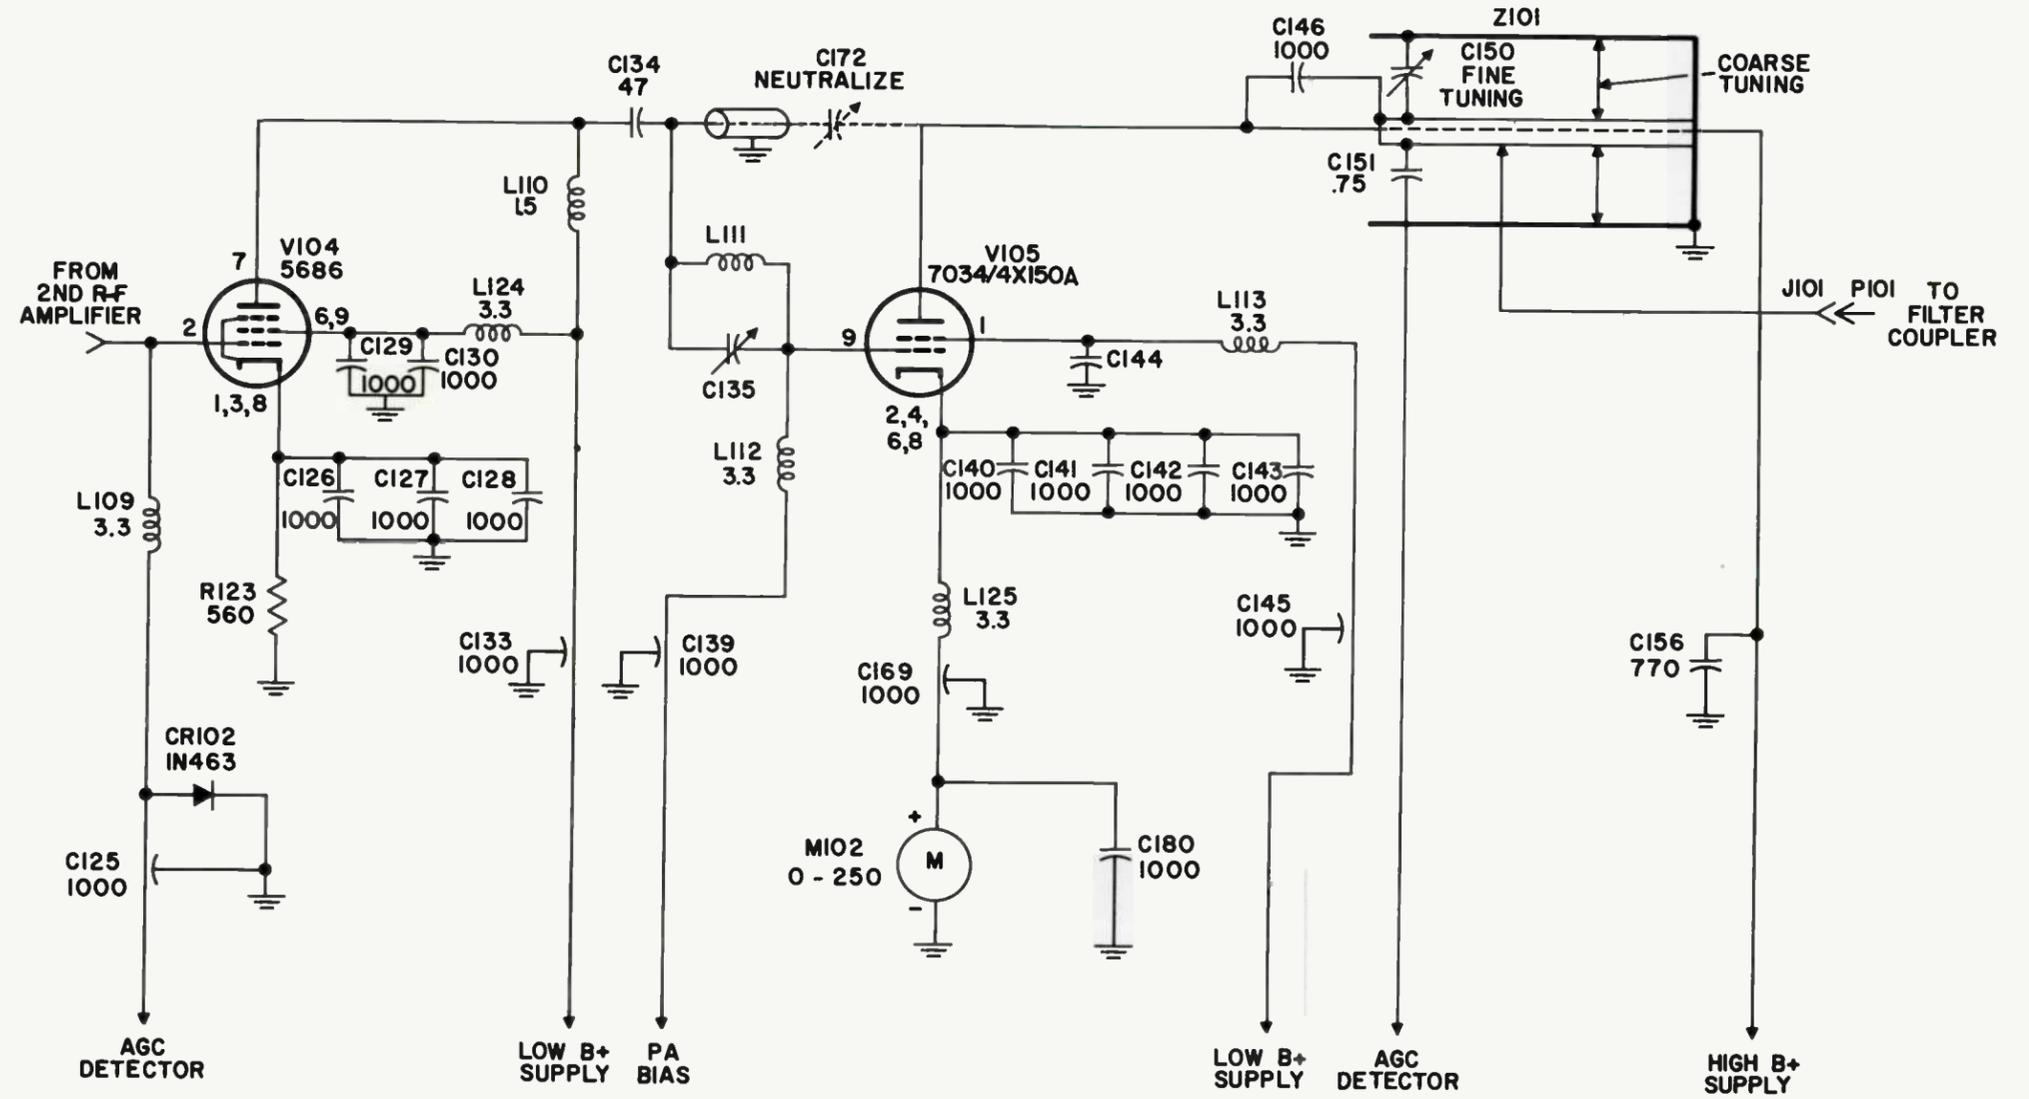

Figure 4-4. Driver, Power Amplifier, and Output Cavity
4.3.1.4 R-F DRIVER. (Refer to figure 4-4.) The modulated r-f signal is fed through C124 to the control grid of V104, the r-f driver tube. The tube is a type 5686 pentode operating in class AB linear. Plate and screen voltages for this stage are supplied by the +350-volt power supply. Coil L124 with C129 and C130 form an r-f bypass network for the screen grid. Coil L110 is an r-f choke in the plate supply lead. Feedthrough capacitors C125 and C133 are used to bypass stray r-f to ground.
4.3.1.5 POWER AMPLIFIER AND OUTPUT CAVITY. (Refer to figure 4-4.) The r-f energy from the driver is applied to the control grid of the power amplifier V105, a type 7034/4X150A tetrode operating in class AB linear. The high B+ power supply furnishes 1700 volts d-c to the power amplifier plate by means of a wire running through the hollow center conductor of plate cavity Z101. The low B+ power supply furnishes 350 volts d-c which passes through r-f choke L113 to the screen grid of V105.
The power amplifier stage is neutralized with a coaxial probe in one end of the output cavity. The neutralizing capacitance is represented as a variable capacitor, C172, shown in dotted lines in figure 4-4.